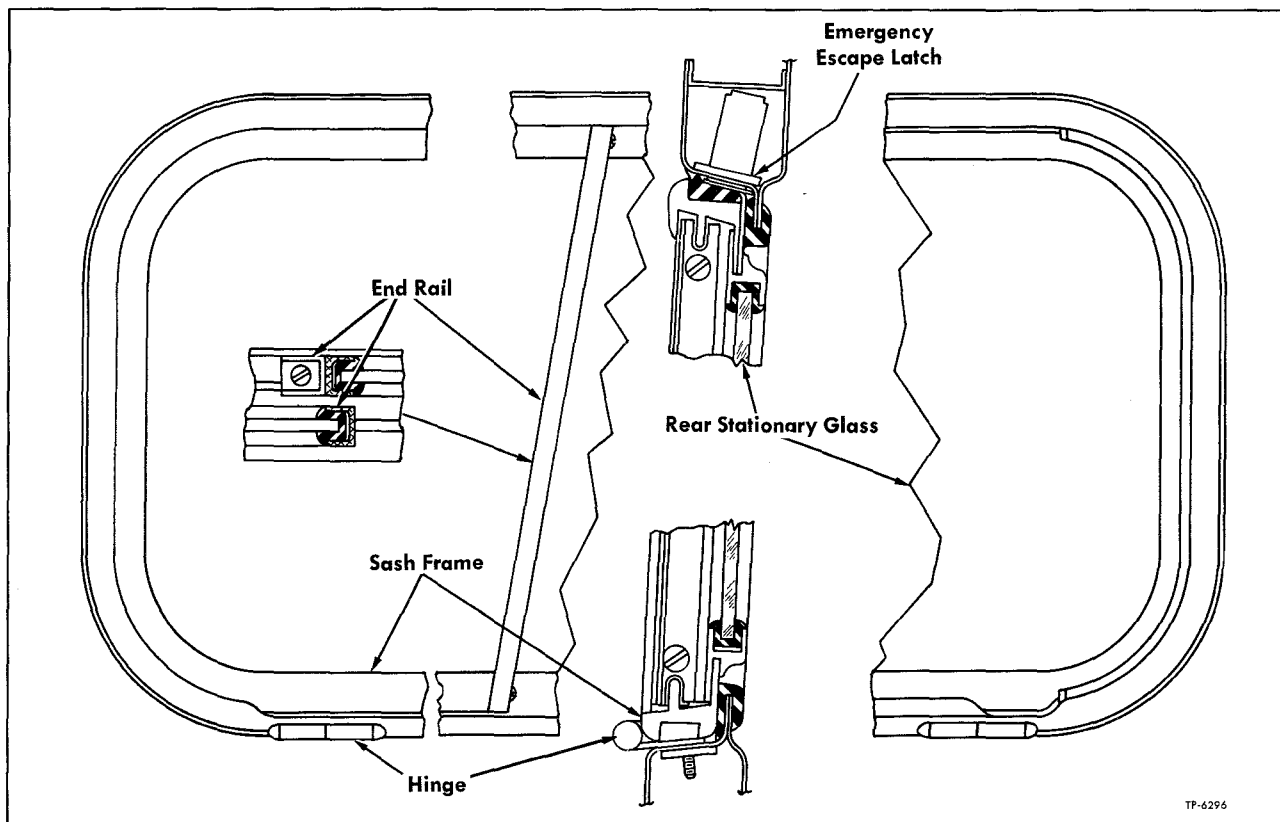

Figure 6—Side Window Sash
Side window sash is equipped with sliding glass shown in figure 6. Window is opened for ventilation by sliding forward half of glass to rear.
2. Remove two screws which attach vertical end rail to sash; then remove end rail (fig. 6).